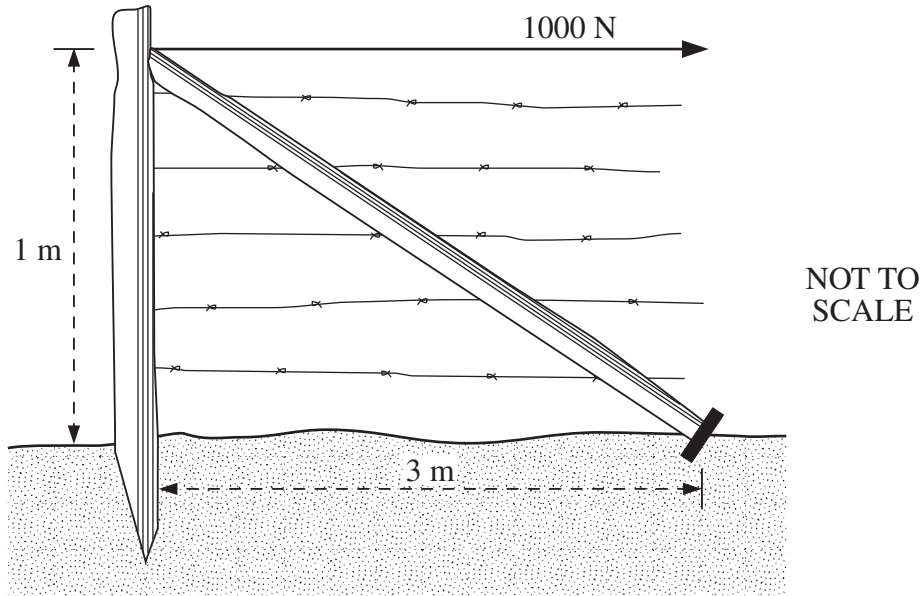

FIG. 9
- (d) (i) In the diagram in Figure 9, the force in the wire is 1000 N, and it tends to lift the post out of the ground. What is the magnitude of this lifting force?